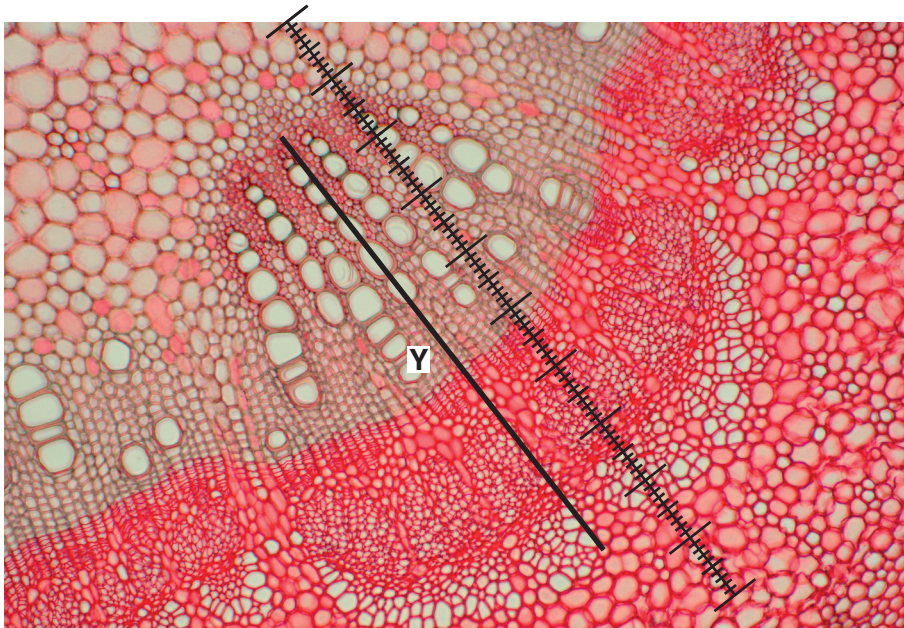

Fig. 2.2
(b) Fig. 2.2 is a stained transverse section through part of the stem of a different plant species. You are not expected to be familiar with this specimen.
Fig. 2.2 shows a photomicrograph taken using the same microscope with the same lenses as the student.
Use the calibration of the eyepiece graticule division and Fig. 2.2 to calculate the actual length of the vascular bundle, shown by line **Y**.
- (c) The plant in Fig. 2.2 produces fruit that are an important source of food for many animals in the ecosystem in which they grow.